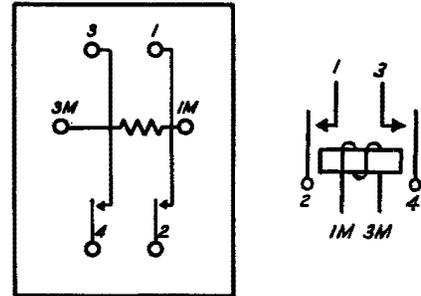

Fig. 86 - Winding and Spring Terminal Arrangement (terminal side) — KS-5350 and KS-5451 Relays Having Three Horizontal Rows of Terminals
2.90 Where the relay has either three or five horizontal rows of terminals, the middle row of terminals is designated by the letter M preceded by the same number as the nearest terminal above. (See Fig. 86 and 87.)